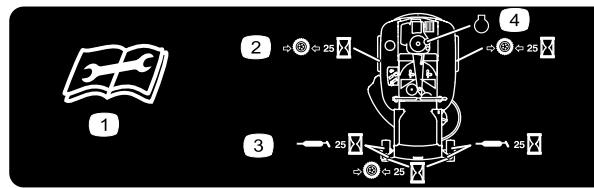

Figure 38
3. Clean the grease fittings (Figure 37 and Figure 38) with a rag.
4. Connect a grease gun to each fitting (Figure 37 and Figure 38).